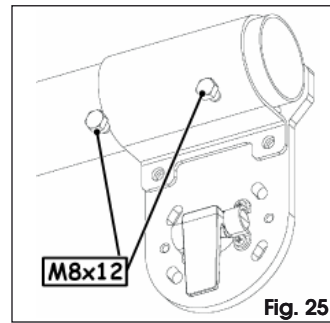

Fig. 25
5. Complete securing the rod with the other two screws, Fig.25.